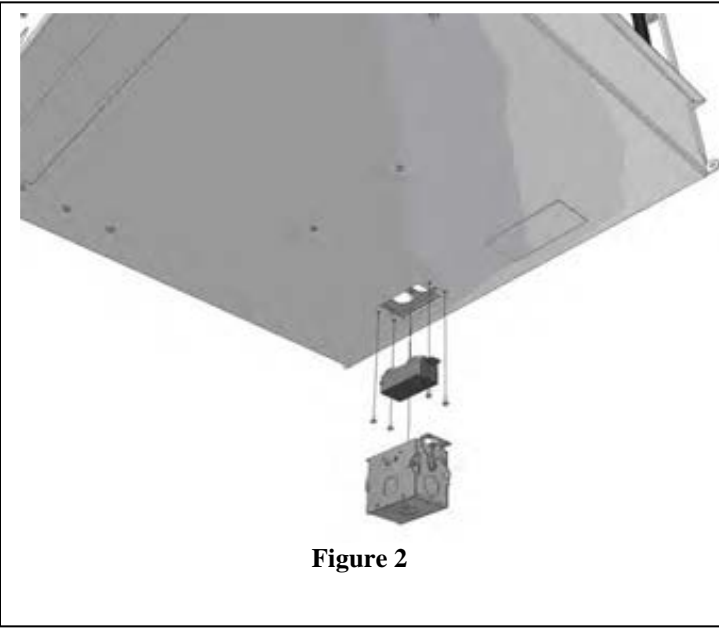

Figure 2
Step 2 – Attach the electrical junction box to the cutout located near the back of the enclosure (Figure 2) with four (4) #6-32 screws.